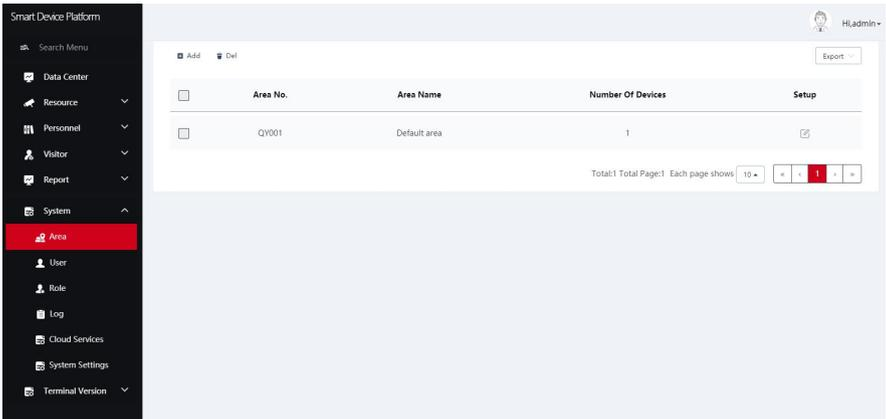

Figure 5-60
Step 1: In the smart device platform interface, click "System→Area" to enter the area management interface, as shown in Figure 5-60 below.